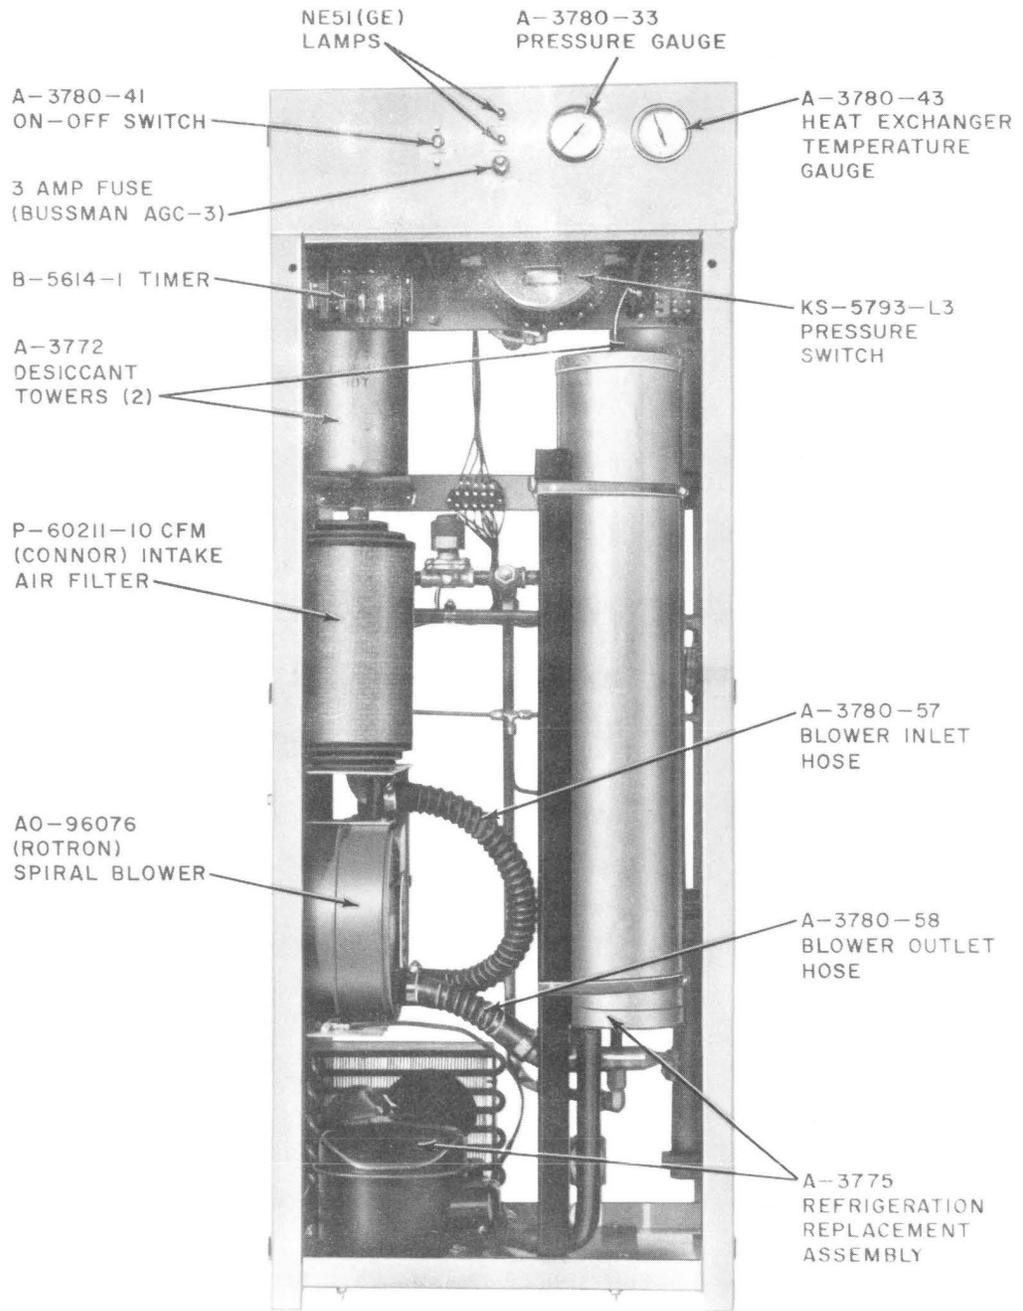

Fig. 2—KS-20183 L2 and L3 Air Dryers—Front Cover Removed
- (1) Shut down the dryer as covered in 2.01.
- (2) Remove the front panel.
- (3) Tag and disconnect the leads from the blower motor to the capacitor and terminal block.
- (4) Loosen the hose clamp and pull the hose from the blower air inlet and outlet (Fig. 2).
- (5) Remove the four mounting bolts fastening the blower to the shelf.
- (6) Remove the blower.
3.07 The KS-5793 L3 pressure switch is removed and replaced as follows (Fig. 2):